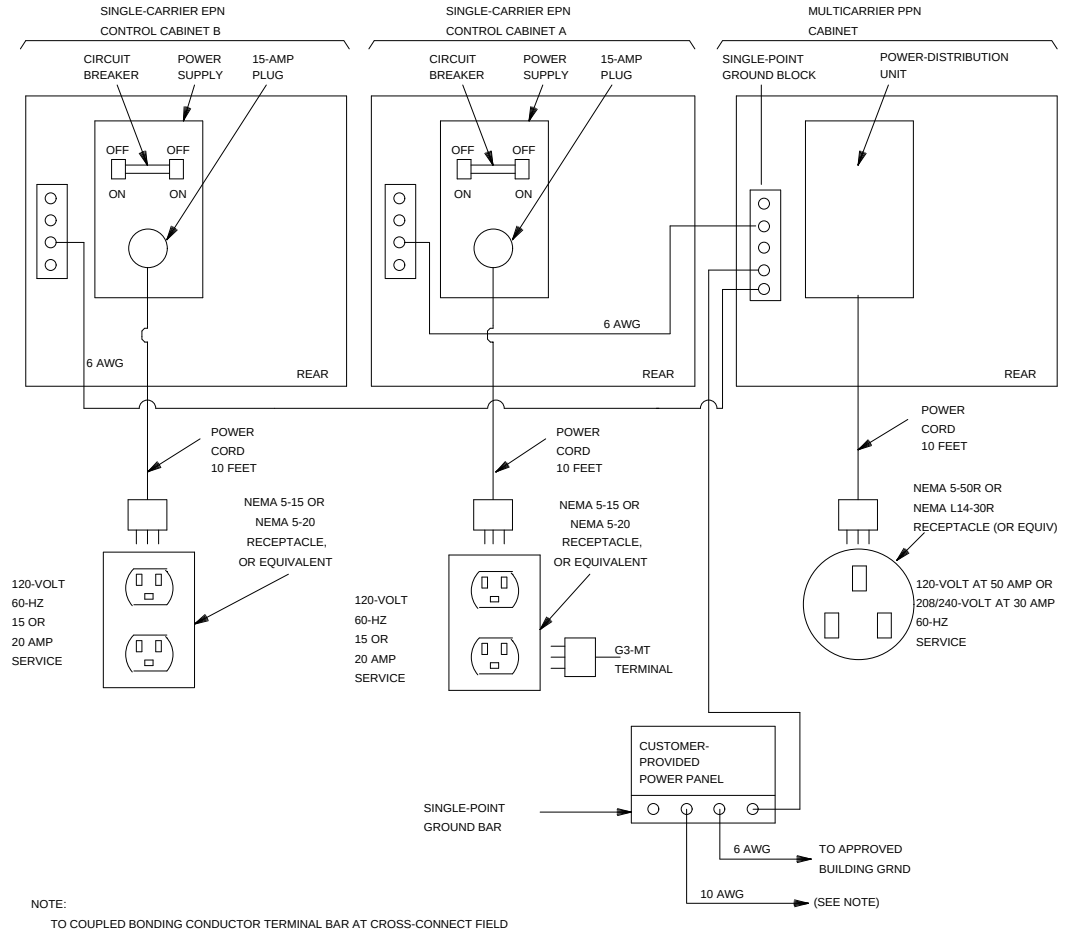
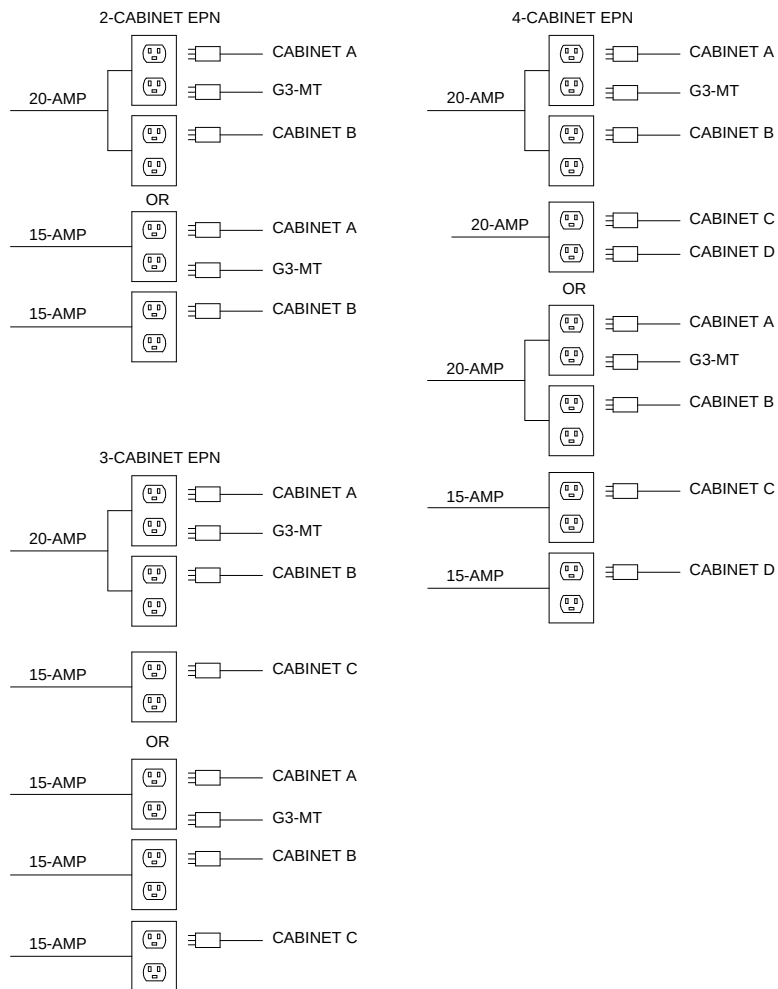
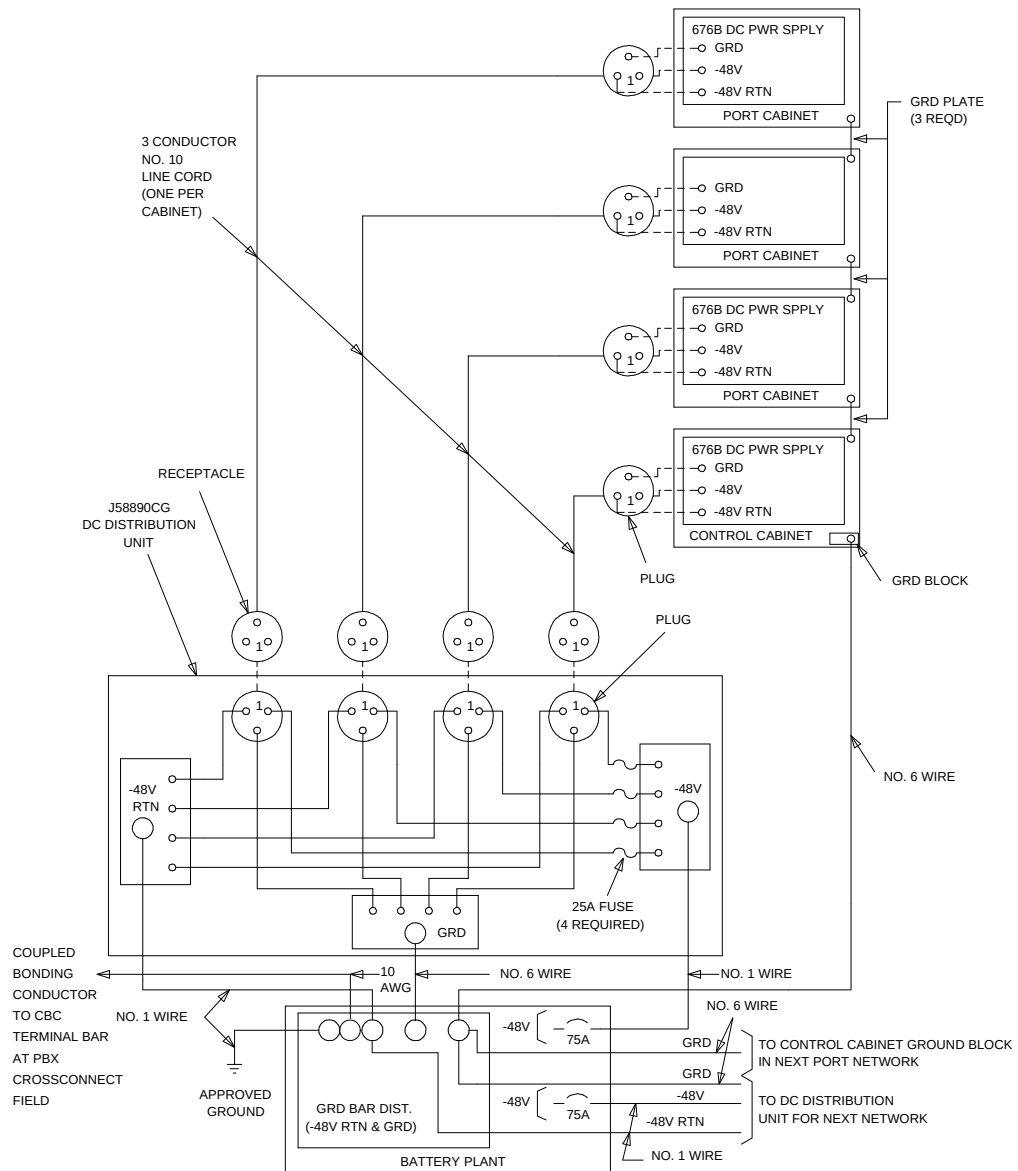

Figure 12-1. Typical Power and Grounding Layout
Figure 12-2. AC-Power Requirements for Port Networks with Single-Carrier Cabinets
Figure 12-3. DC-Power and Grounding Wiring for Typical SCC Port Network
1. At the port network to be upgraded, behind the power supply of each cabinet, set the circuit breaker to OFF (see Figure 12-1).
2. Unplug the power cord from the receptacle for each on-line cabinet. (See Figure 12-1, Figure 12-2, and Figure 12-3.)
Each cabinet contains its own power supply, and an AC power cable must be connected to each cabinet. The customer-provided AC receptacle options are shown in Figure 12-2.
2. Connect the AC power cable from each cabinet to power receptacles (see Figure 12-1 and Figure 12-2).
- At the J58890CG DC power-distribution unit, connect the power cord to the cabinet connector associated with the cabinet being added. Route the cable to the rear of the cabinet. Connect the power cord to the DC connector on the rear of the cabinet being installed (see Figure 12-3).